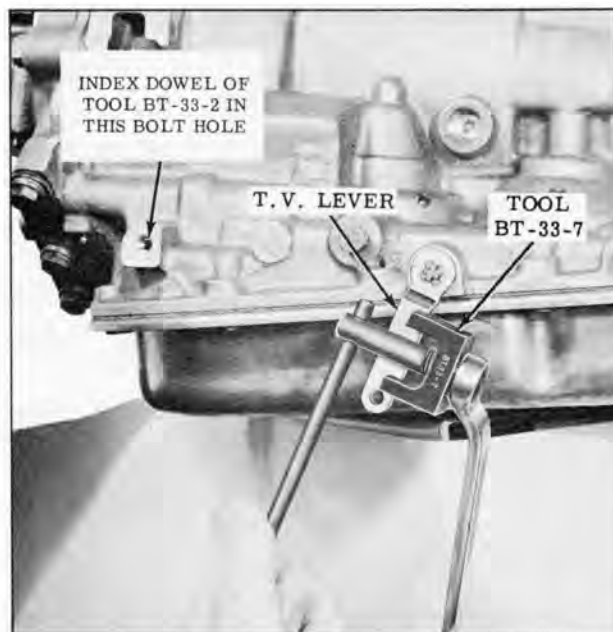

Fig. 8-121 Bending T.V. Lever
2. Disconnect lower T.V. rod from T.V. lever and position gauge BT-33-2 as shown in Fig. 8-120. The hole of the T.V. lever must be within the hole of the gauge when holding the T.V. lever in the rearward position. If the hole of the T.V. lever does not fall within the gauge hole, bend the lever with bending tool BT-33-7. (Fig. 8-121)